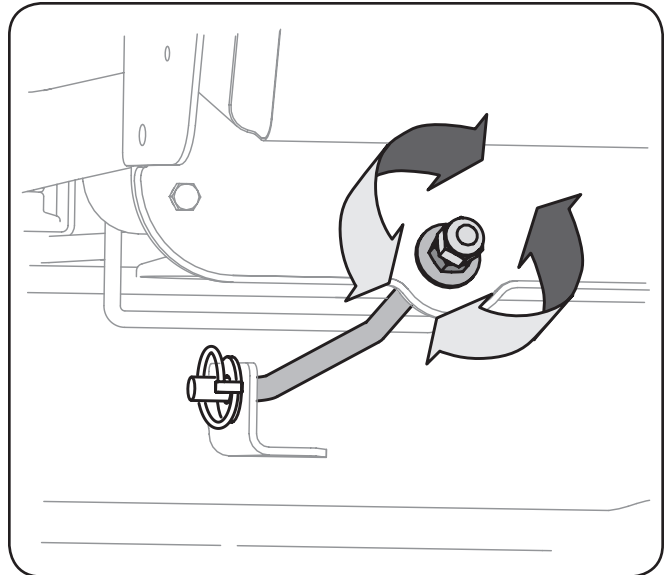

Figure 6-5
1. Loosen (thread outward) the hex lock nut on the end of the deck hanger rod. See Fig. 6-5.
3. To *lower* the front of the deck, loosen (thread outward) the hex nut, away from the front hanger bracket. See Fig. 6-5.